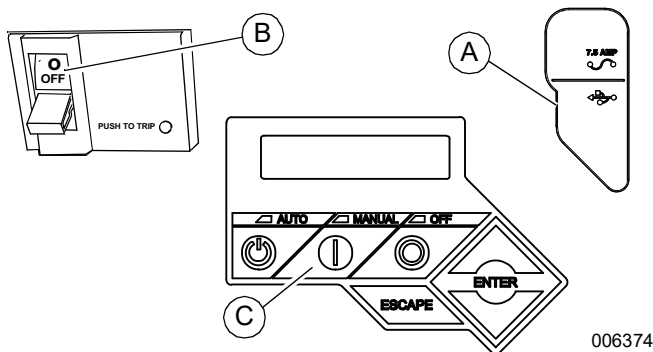
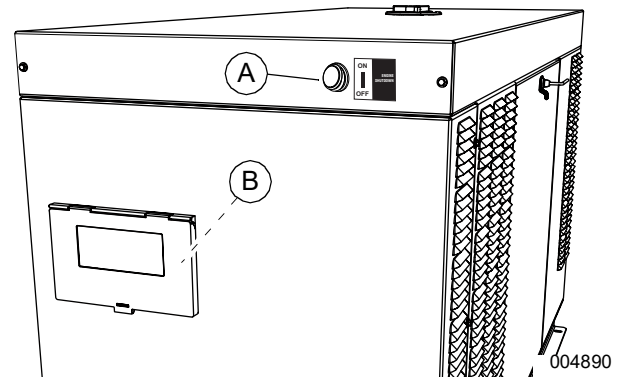

Figure 3-5. Generator Control Panel
Figure 3-6. Auxiliary Shutdown Switches
1. See Figure 3-5. Pull up rubber flap covering fuse holder and verify installation of 7.5 amp fuse (A).
2. Set the main line circuit breaker (MLCB) (generator disconnect) to OFF (OPEN) (B).
3. Verify both auxiliary shutdown switches are ON (I). See Figure 3-6 for locations.
4. Press MANUAL on control panel (C) to start engine. A blue LED illuminates to verify system is in MANUAL.
See **Figure 3-6**. Generators 15 kW and larger are equipped with two auxiliary shutdown switches. One auxiliary shutdown switch (A) is located on the generator roof above and to the right of the viewing window. The second auxiliary shutdown switch (B) is inside the control panel enclosure.
See Figure 4-1. The control panel is located behind the viewing window at the rear of the unit. See Figure 3-5 and Figure 3-6.